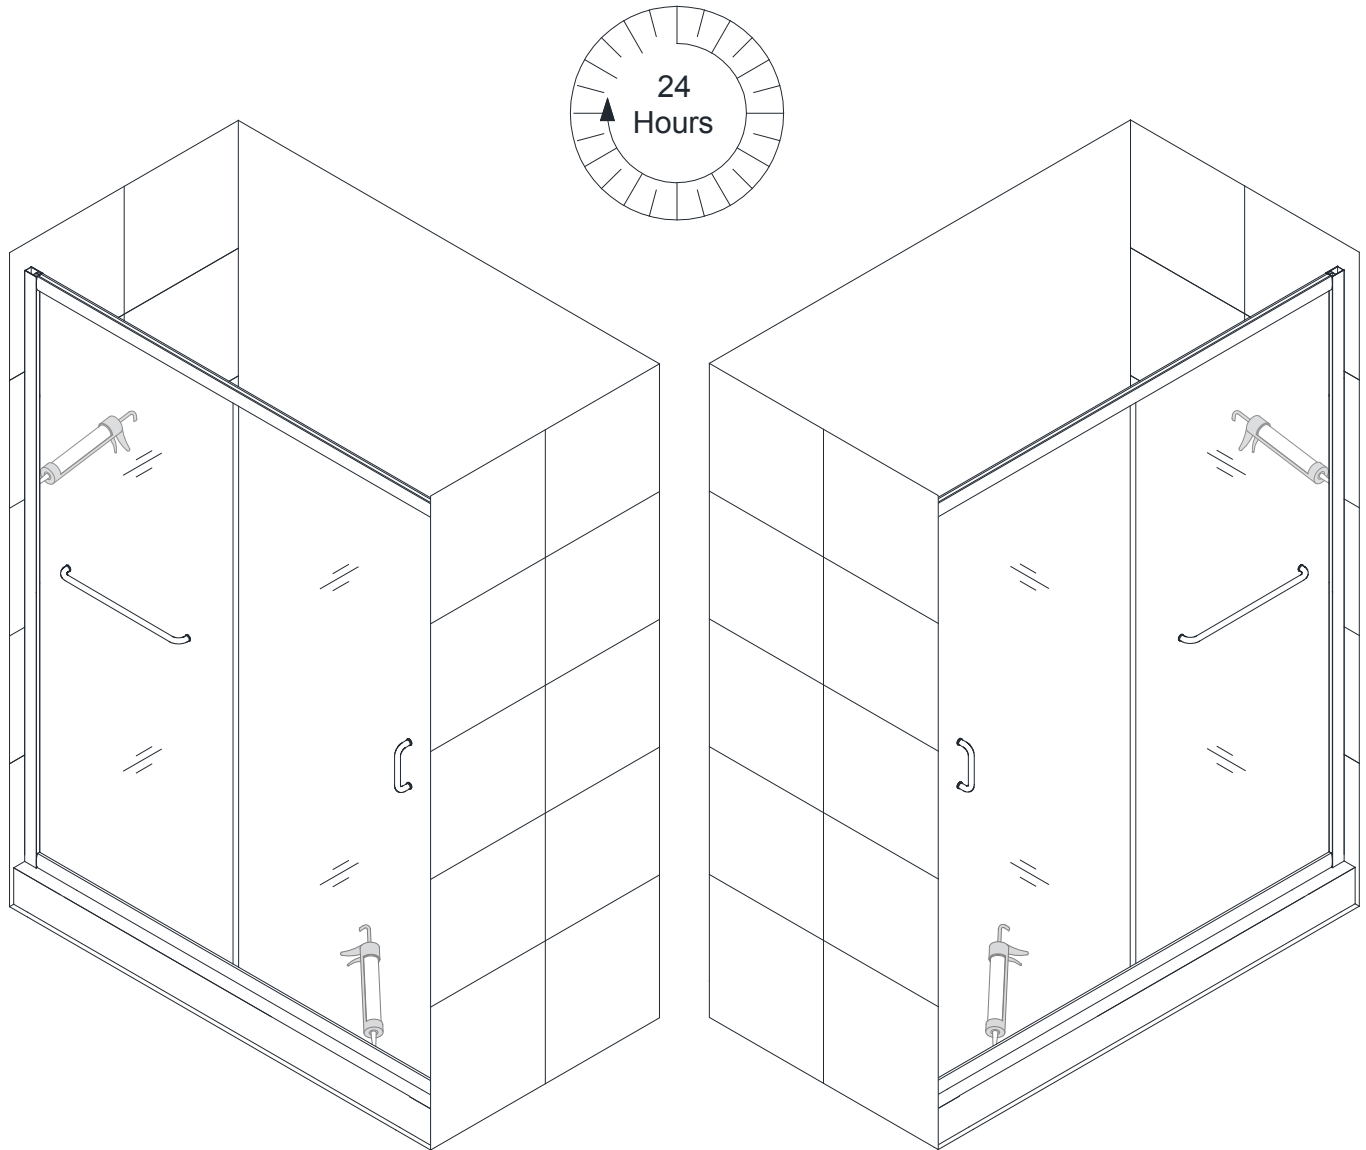

Fig 18
16. Apply a good quality mildew-resistant silicone around the interior perimeter along both wall profiles and the bottom rail on the threshold. **(Fig 18)**